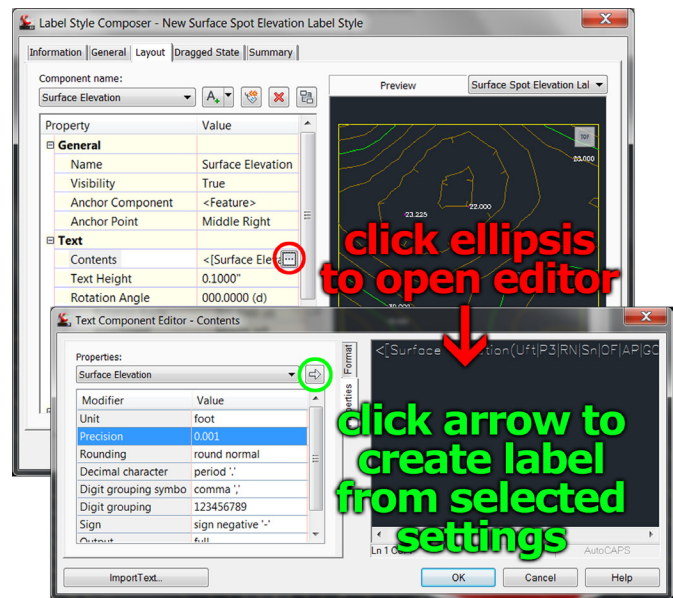

Figure 9 – The Text Component Editor is where we define the properties of a Civil 3D label.
This step will ensure the label is centered over each spot where a measurement is taken. **Step 6:** Click in the Text Contents field and click the ellipsis button to open the Text Component Editor (see Figure 9).
**Step 7:** In the properties area on the left, click in the Precision field and select 1. This will eliminate the decimals and round all labels to the nearest foot. **Step 8:** Click the arrow (circled in green in Figure 9) to create a new "label code" from the revised settings. When finished, click OK to close both dialog boxes.